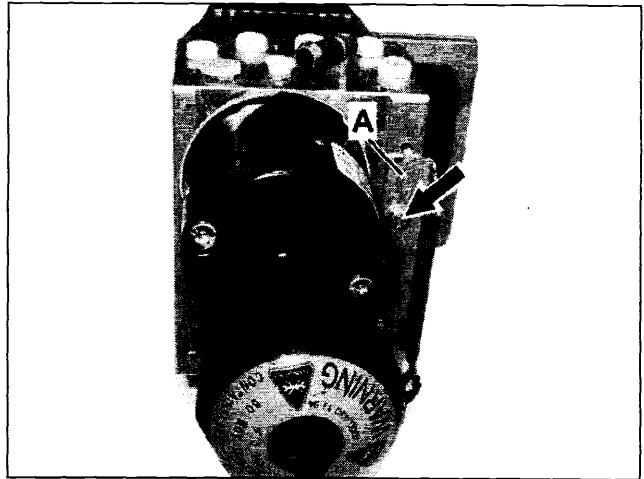

Figure 18
18. Secure ground wiring harness (C) to the SBC connector housing receptacle (F) using a new cable tie (E).
19. Attach bracket (A, Figure 18) to the SBC hydraulic unit: